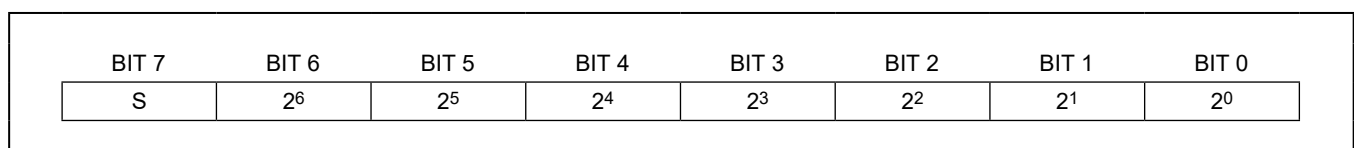

Figure 5.  $T_H$  and  $T_L$  Register Format
After the DS18B20 performs a temperature conversion, the temperature value is compared to the user-defined two's complement alarm trigger values stored in the 1-byte TH and TL registers (see Figure 5). The sign bit (S) indicates if the value is positive or negative: for positive numbers S = 0 and for negative numbers S = 1. The TH and TL registers are nonvolatile (EEPROM) so they will retain data when the device is powered down. TH and TL can